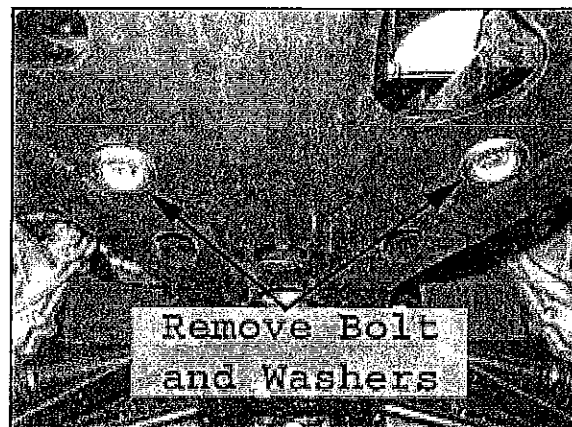

Figure 3 Remove Bolt and Washers
1. Remove the bolts and large washers on the skidpan just behind the front wheels of the ATV as shown in Figure 3.